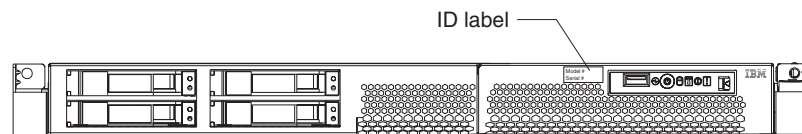

Figure 1. Serial number location (model with SCSI hot-swap hard disk drive)
The model number and serial number are on the ID label, which is on the front of the server on the lower-right corner, as shown in Figure 1.
2. Figure 1 shows a 2.5-inch SCSI hot-swap hard disk drive model. There is also a 3.5-inch hard disk drive model that is available with either a SCSI hot-swap or SATA simple-swap configuration. This illustration might differ slightly from your hardware.